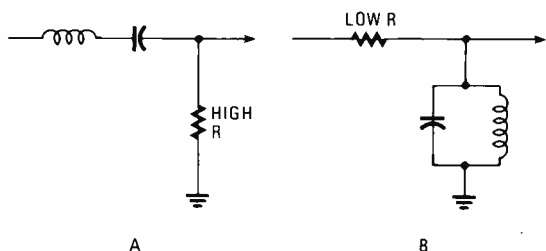

Fig. 24—These are the two simple kinds of bandpass filters.
49. (rejects) The curve in Fig. 23B is familiar to you because you saw it in the previous discussion of resonance. Any resonant circuit, series or parallel, is a type of BPF. Figure 24 shows two ways resonant circuits can be connected to produce the bandpass function. At A, a series resonant LC section is used. At resonance (the filter's center frequency) LC acts as a very low resistance, therefore, most of the input voltage appears across the output resistor. On either side of resonance, the LC section has a higher impedance. Therefore, more input voltage is dropped across it and less appears at the output.